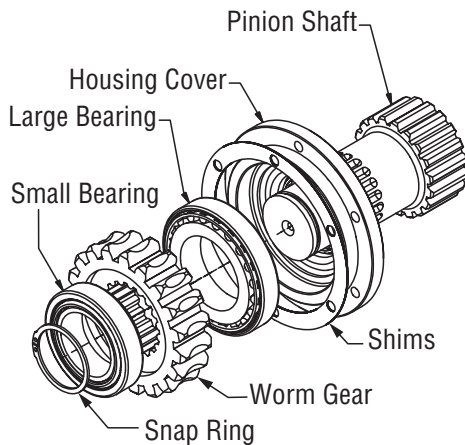

Figure 5-36, Pinion Shaft
5. Remove the pinion shaft assembly. (Figure 5-36)
6. Remove the snap ring from the end of the pinion shaft. (Figure 5-36)
7. Place the assembly in a press supporting the housing cover, **not the pinion shaft**. Press the pinion shaft through the small bearing and the worm gear. At this point the small bearing, worm gear and large bearing are loose and can be lifted out of the housing. (Figure 5-36)